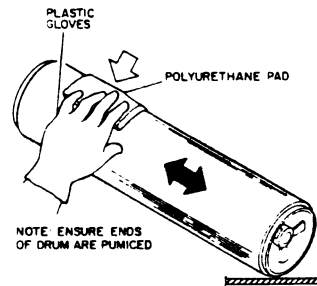

Figure 2. Removing the Scratches 60-RAVN-152
2. REMOVE SCRATCHES (FIGURE 2).